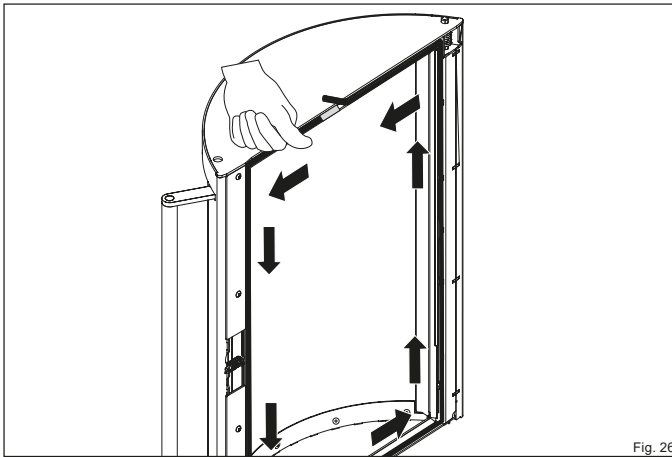
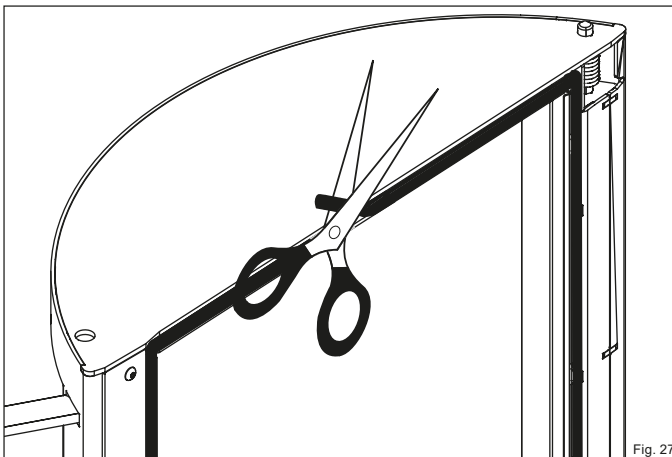

Fig. 26
Fig. 27
- ▶ Start installing the seal at the middle of the rail at the top of the firebox door. Push the seal evenly into the rail (Fig. 26). Allow the end to protrude slightly and cut off the seal flush (Fig. 27).